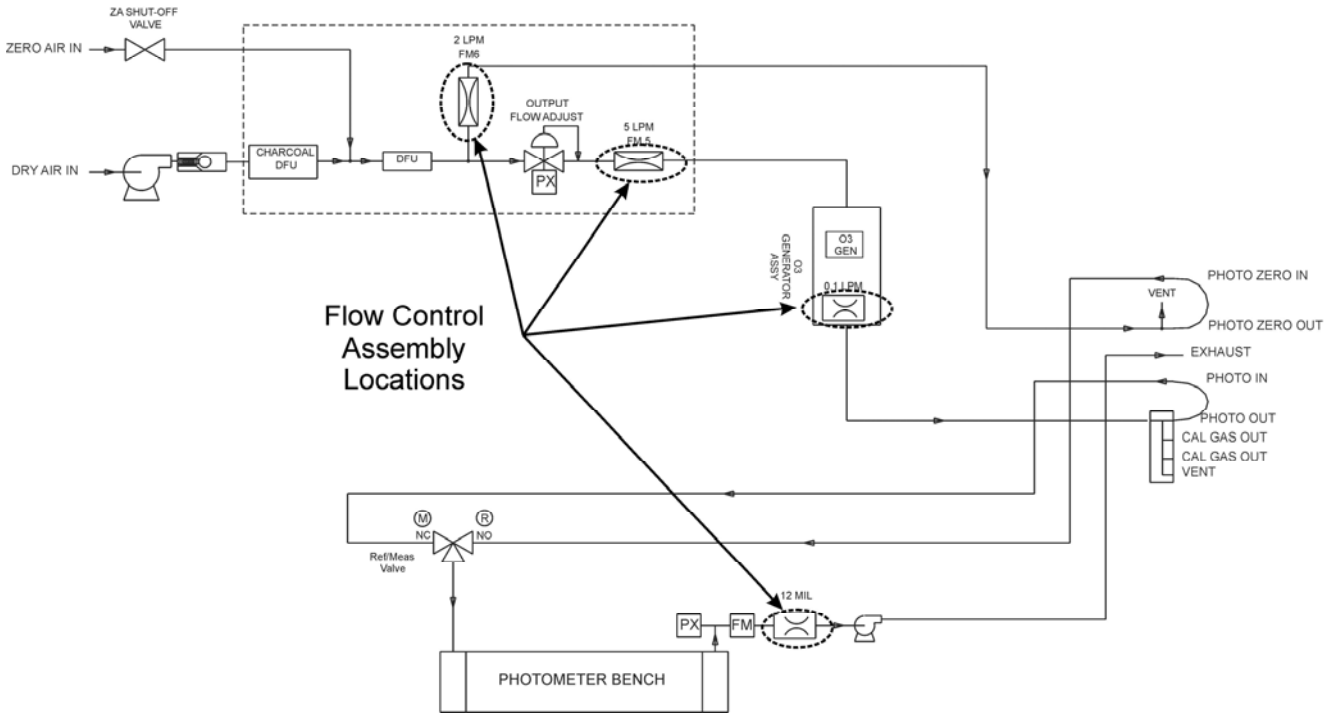
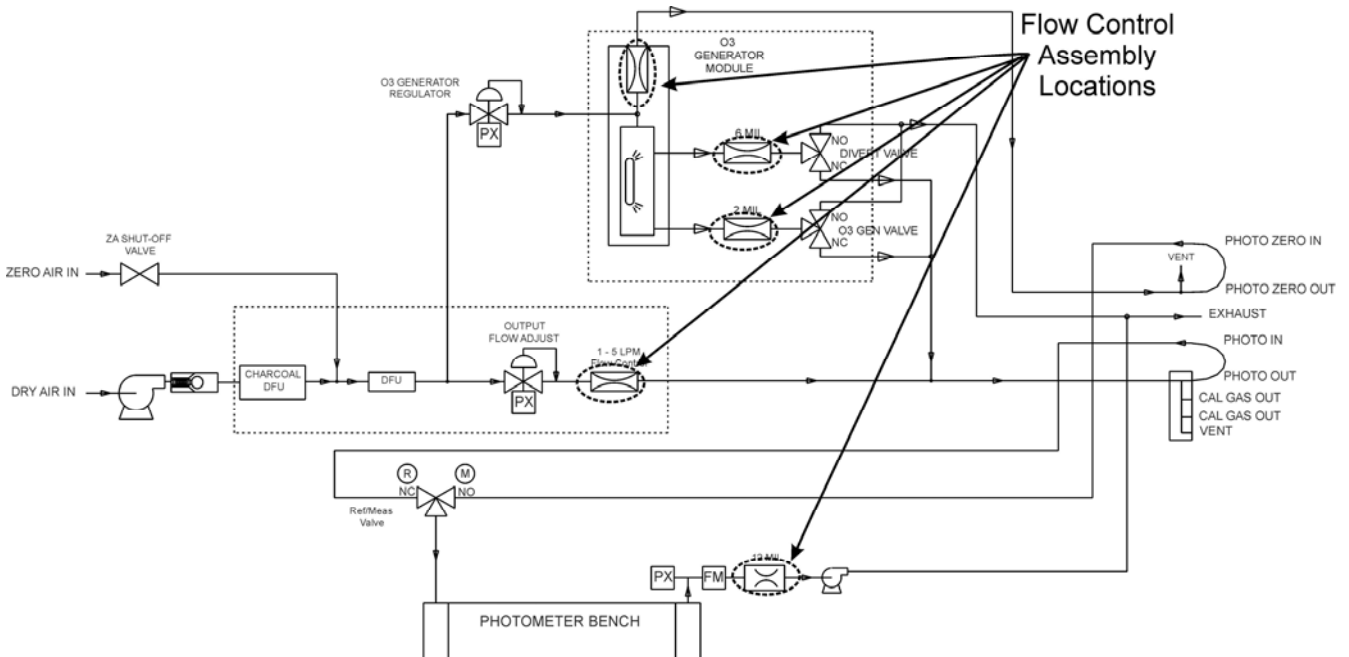

Figure 9-1. Location of Gas Flow Control Assemblies - T703
Figure 9-2: Location of Gas Flow Control Assemblies - T703U
2. Locate the assembly to be repaired, see Figure 9-1 (T703) or Figure 9-2 (T703U).
Gas flow rates are set by various flow control assemblies in the gas stream(s), locations indicated in Figure 9-1/ Figure 9-2.